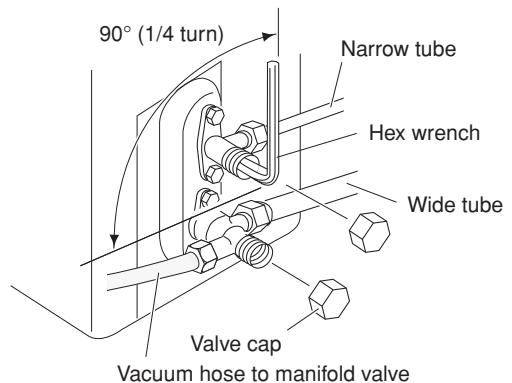

Fig. 28
(5) With the vacuum pump still running, close the "Lo" knob of the manifold valve. Then stop the vacuum pump.
(6) With the hex wrench, turn the valve stem on the narrow tube service valve counter-clockwise by 90 degrees (1/4 turn) for 10 seconds, and then turn the stem clockwise to close it again. (Fig. 28)